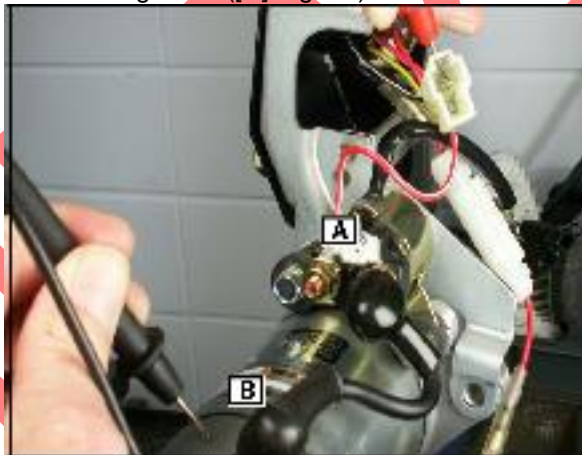

Fig. 58
Check for continuity at the yellow terminal (A) of the connector coming from the switch with the key in the **START** position and ground ([B] Fig. 58).